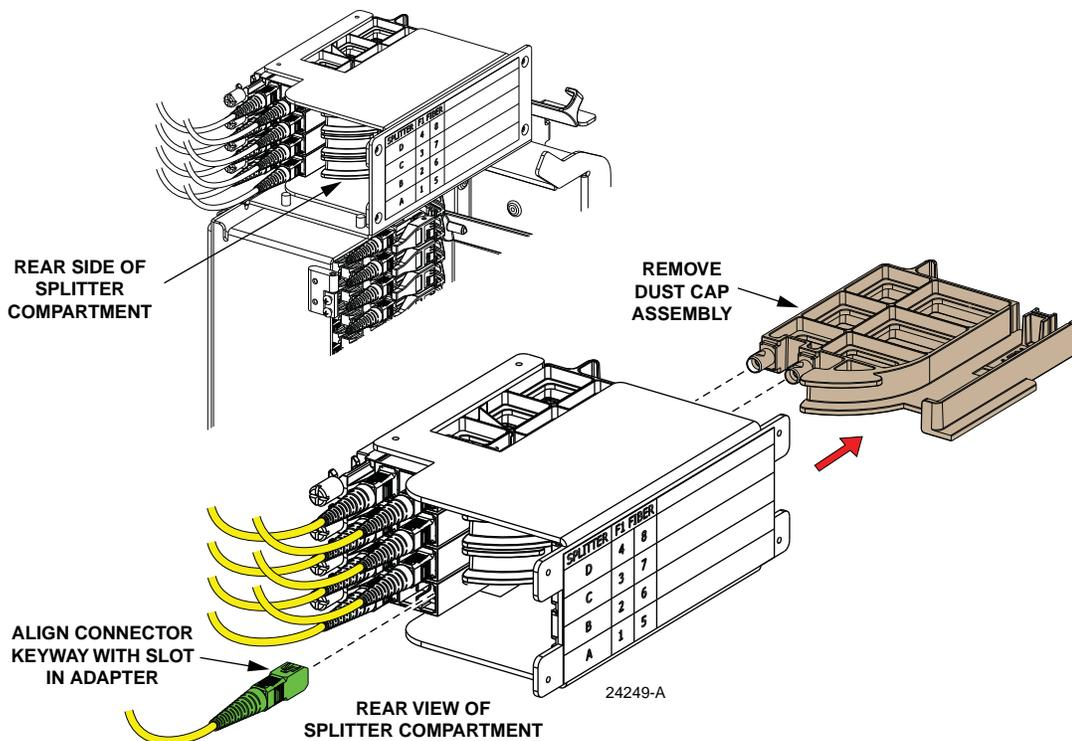

Figure 54. Feeder Cable Connector
4. Remove the corresponding feeder cable connector(s) from the rear of the splitter compartment as shown in Figure 54.